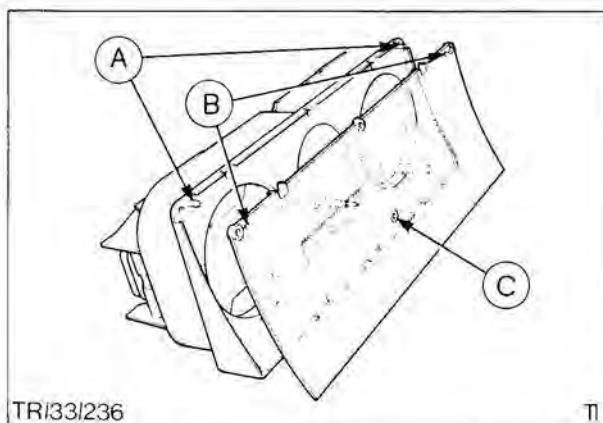

Fig. 60. Aligning glass
6. Replace glass positioning it on cluster housing so two locating pegs on upper corners of cluster body insert through glass. Fig. 60. Locate lugs on lower edge of glass so that they engage cut-outs in housing body.